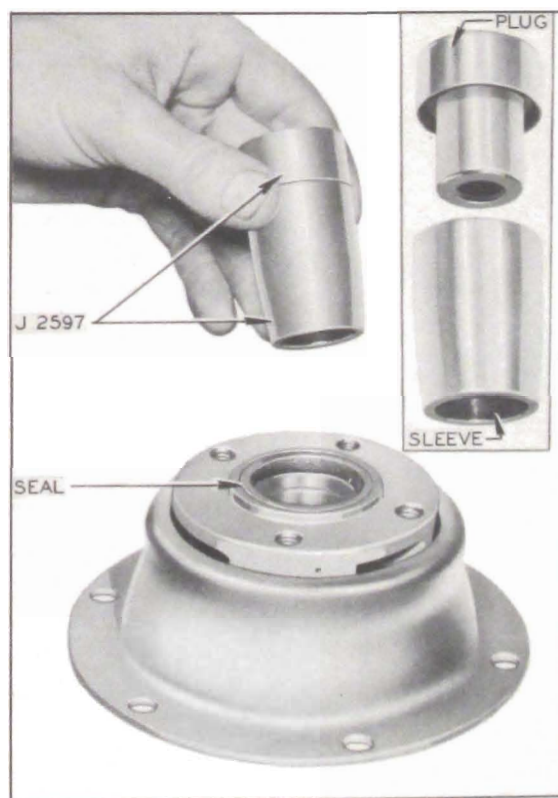
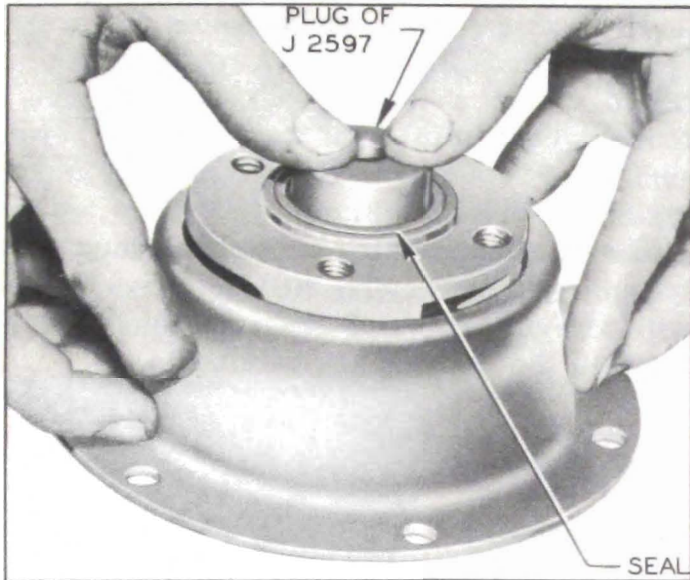

Figure 4-37—Torque Ball Installing Tool J597
Figure 4-38—Pushing Installing Tool into Universal Joint Oil Seal
9. Assemble sleeve and plug of Installing Tool J 2597 together (fig. 4-37), then push tool through rear side of oil seal until the leather edge is on the plug, at which time the sleeve will drop off the plug. See figure 4-38.
15. Always use Installing Tool J 2597 (fig. 4-37) when installing torque ball to avoid dam-
3. Install selected shims, torque ball and retainer with top sides up, thrust plate gasket, and thrust plate. Use Installing Tool J 2597 (fig. 4-37) to avoid damaging oil seal when installing torque ball. When installing retainer and thrust plate attaching bolts be sure to use tightening and centering procedure specified in subparagraph a, above.